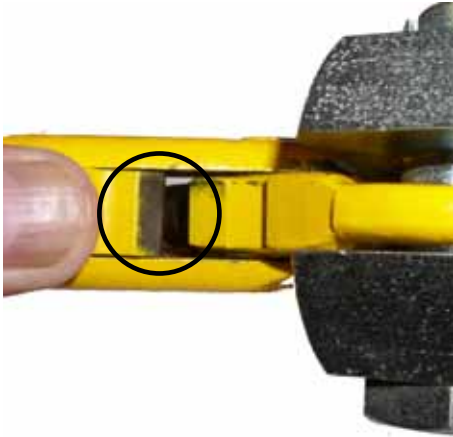

Figure 11. Examine Gate Lock Latch for rounding.
- c. Check lock latch for rounded edge, see Figure 11.